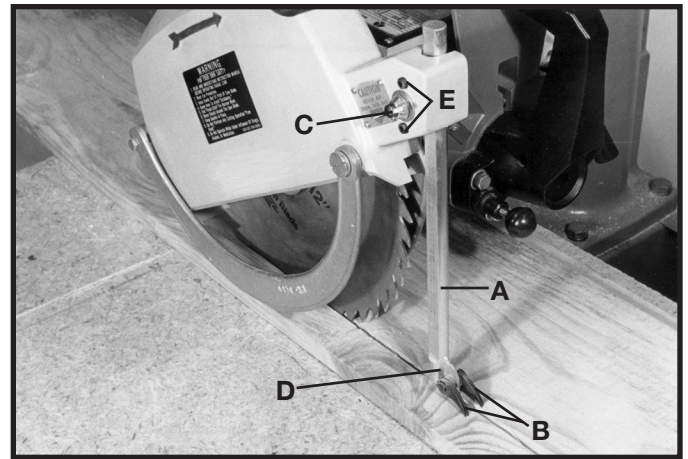

Fig. 57
On all ripping and plowing operations, the back part of the blade guard is lowered so that it just clears the material. This will prevent the material from being lifted off the table. Also, lower the kickback rod (A) Fig. 57, so that the kickback fingers (B) are below surface of material. Rod (A) can be raised or lowered by loosening wing nut (C), moving the kickback rod to the desired position and tightening wing nut (C). The kickback fingers (B) will then come into contact with the material, preventing “kickback.” The splitter (D) Fig. 57, should be in line with the saw blade. If an adjustment is necessary, make sure to **DISCONNECT MACHINE FROM POWER SOURCE**. Rod (A) can be adjusted sideways by tightening or loosening two screws (E) Fig. 57.